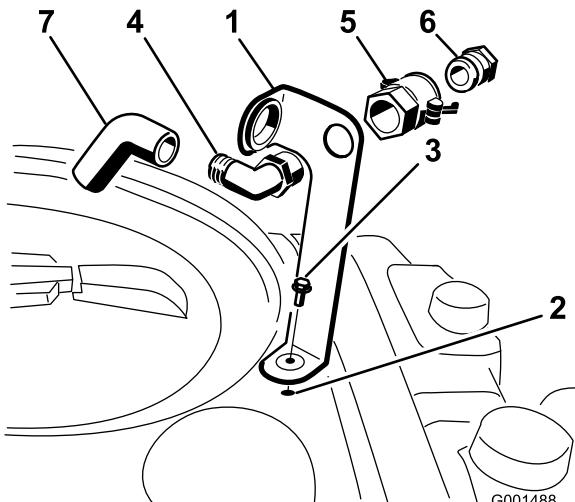

Figure 3
flange-head bolt (5/16 x 3/4 inch) as shown in Figure 3.
2. Place the threaded end of the 90° elbow fitting through the bracket and thread the quick coupler onto it, securing it to the bracket (Figure 3).
3. Install the hose adapter into the quick coupler (Figure 3).
4. Lock the adapter into place by swinging the levers toward the adapter and then secure them with the hairpin cotters (Figure 3).
5. Install the anti-siphon hose through the large opening on the bracket and onto the barbed end of the 90° elbow fitting (Figure 3).